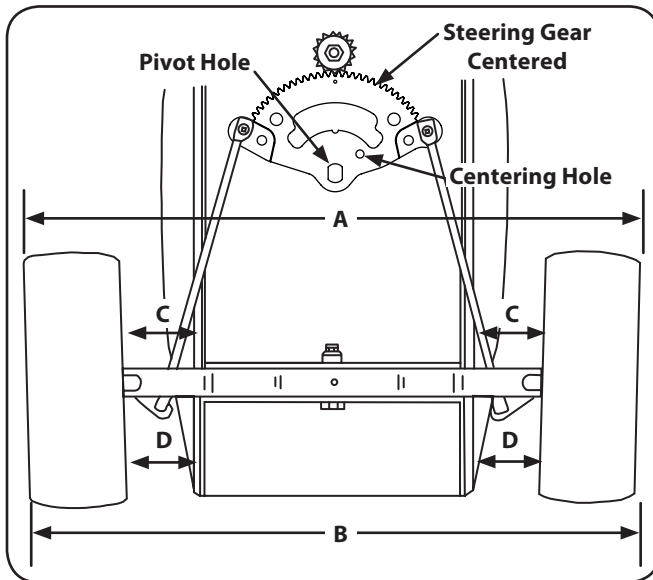

Figure 6-8
The front wheels should toe-in approximately $\frac{1}{8}$ to $\frac{1}{4}$ " , as measured across dimensions A and B. See Fig. 6-8.
1. Check the steering gear to ensure it is in the centered position. The hole in the steering segment gear will align with the hole in the steering housing (See Fig. 6-8).
3. Measure the distance between the bottom edges of the tractor frame channels and the marks on the front of each wheel (See measurement D in Fig. 6-8). These two measurements should be equal.
4. Measure the distance between the frame and the marks on the rear of each front wheel (See measurement C in Fig. 6-8). Measurement D should be approximately $\frac{1}{16}$ - to $\frac{1}{8}$ -inch less than measurement C on each side of the tractor.